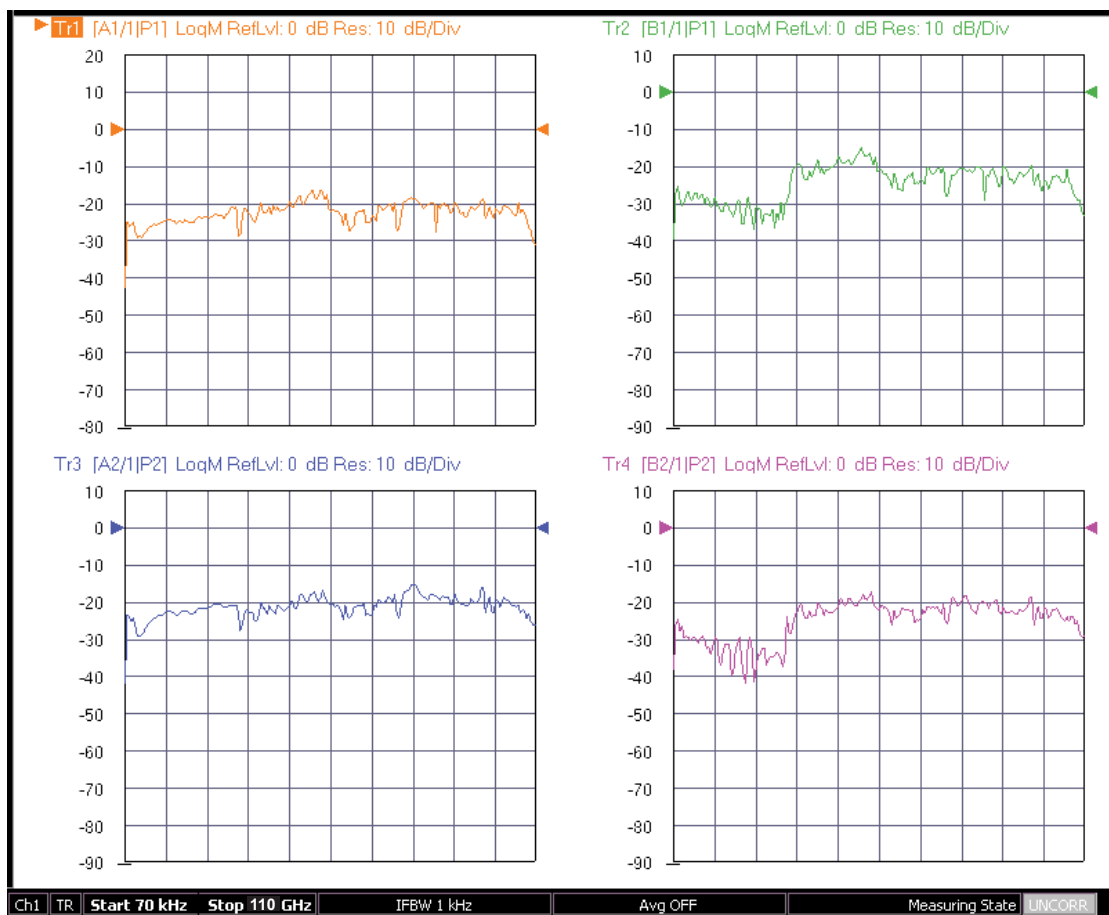

Figure 6-9. Typical VNA Four-Trace Display of Non-Ratioed Parameters for Initial Checkout
21. Connect **shorts** to both W1 connectors on the 3743E/EX Modules, and ensure the resultant display looks similar to Figure 6-9 below.